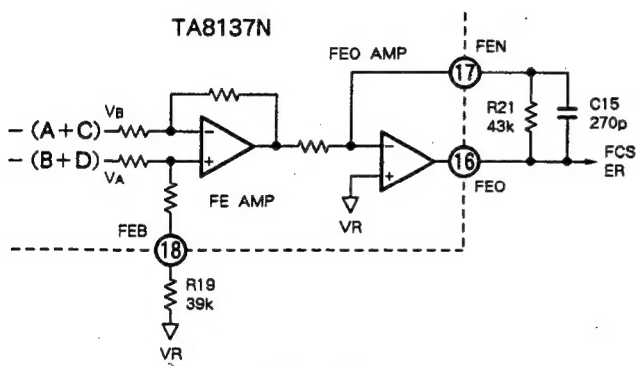

Fig. 1-5
The difference between the output of the RF I-V amplifier (1) V_A and that of the RF I-V amplifier (2) V_B is obtained, and the OEIC output signal $(B+D) - (A+C)$ is supplied at the center of the reference voltage. (See Fig. 1-5.)